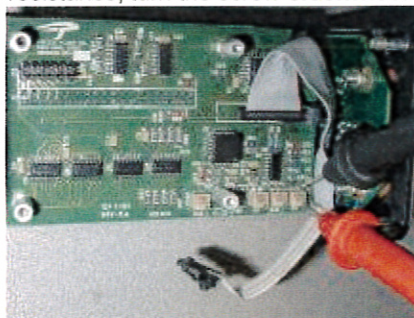

Figure 6 - Adjusting the R3 Variable Resistor
6. Adjusting **R3** for Aileron Full Right Roll indication. To adjust, set the Multimeter to read resistance, and place the probes on TP3 and TP3-1 as shown in **Figure 6**, and adjust the variable resistor.